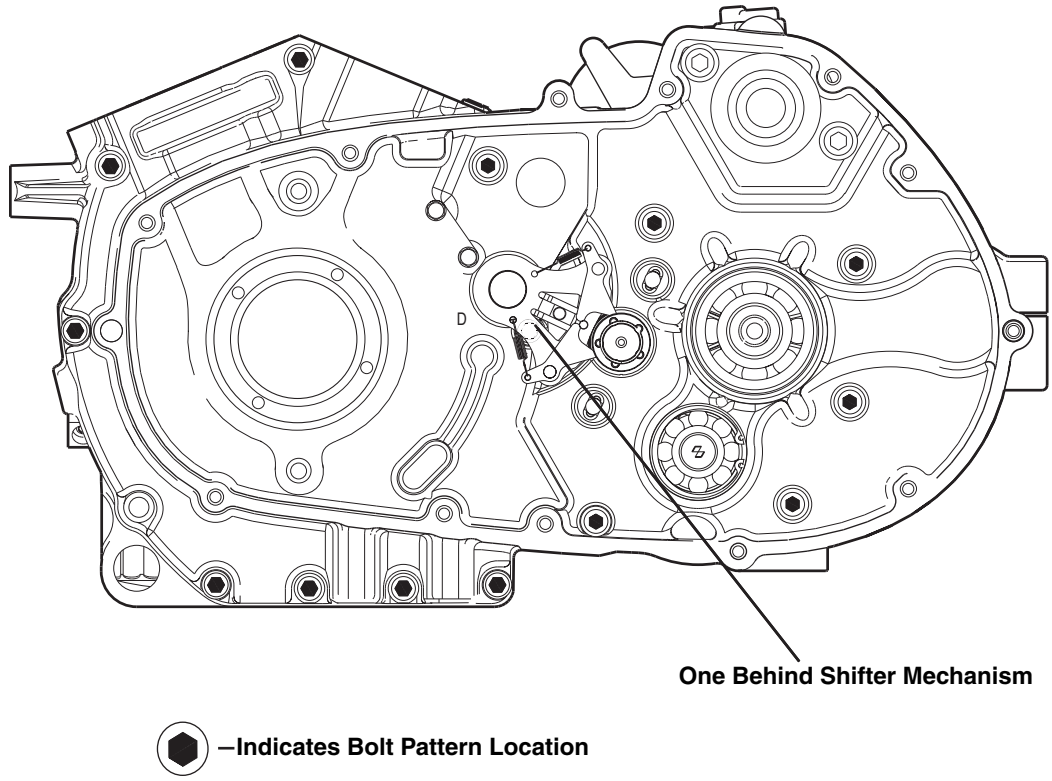

Figure 6-93. Crankcase Fasteners
- b. See Figure 6-93. Apply several drops of LOCTITE 272 (red) to last few threads and tighten 5/16-in. fasteners to 15-19 ft-lbs (20.3-25 Nm).